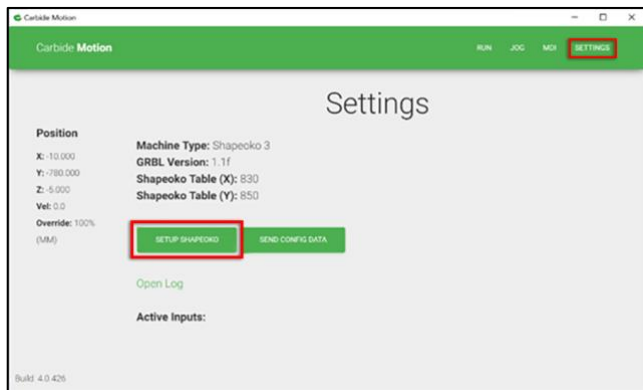

Figure 20
2. Click the **Setup Shapeoko** button. See *Figure 20*.